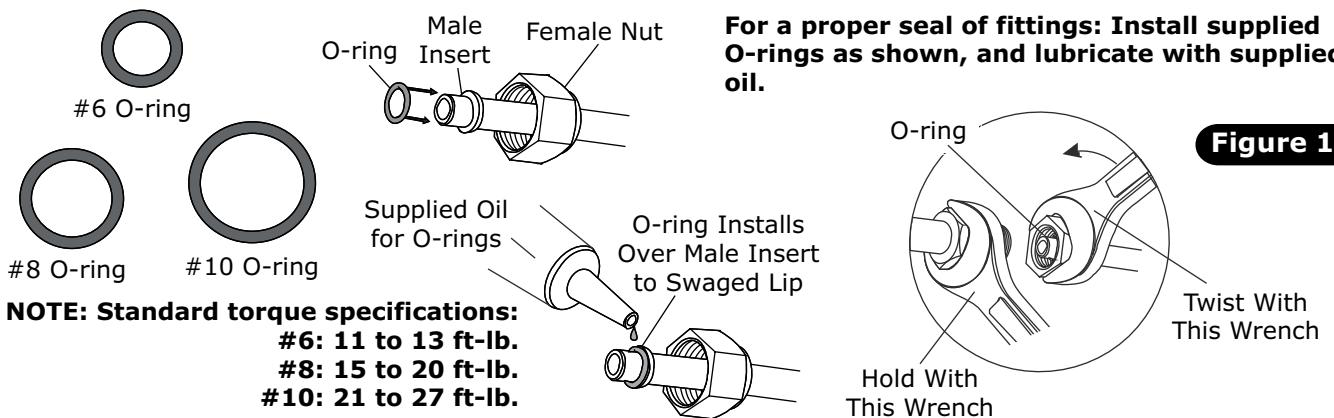

Figure 10
1. On a workbench, install evaporator rear bracket and heater hose fittings with properly lubricated O-rings (See Figure 5, Page 9, and Figure 10, Page 12).
1. Locate the #8 compressor A/C hose. Lubricate (2) #8 O-rings (See Figure 10, above) and connect the 135° female fitting with 134a service port to the #8 discharge port on the compressor. Route the 90° female fitting to the #8 condenser hardline (See Figure 11, Page 13). Tighten each fitting connection as shown in Figure 10, above.
2. Locate the #10 compressor A/C hose. Lubricate (2) #10 O-rings (See Figure 10, above) and connect the #10 135° female fitting with 134a service port to the #10 suction port on the compressor. Route the 90° female fitting to the #10 fitting on evaporator (See Figure 8a, Page 11, and Figure 11, Page 13). Tighten each fitting connection as shown in Figure 10, above.
3. Locate the #6 evaporator A/C hose. Lubricate (2) #6 O-rings (See Figure 10, above) and connect the 90° female fitting to the drier. Route the 90° female fitting to the #6 fitting on evaporator (See Figure 8a, Page 11, and Figure 11, Page 13). Tighten each fitting connection as shown in Figure 10, above.